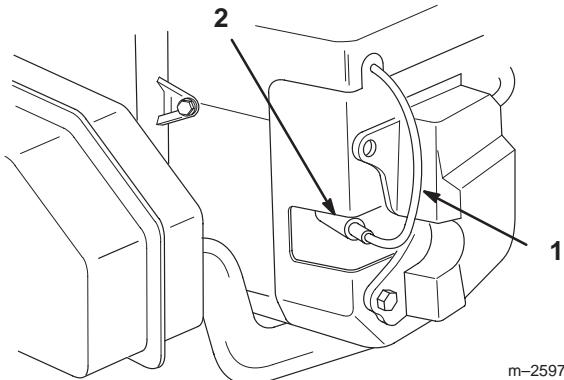

Figure 23
2. Pull the wire(s) off the spark plug(s) (Fig. 23). Now clean around the spark plug(s) to prevent dirt from falling into the engine and potentially causing damage.
- Push the wire(s) onto the spark plug(s) (Fig. 23).